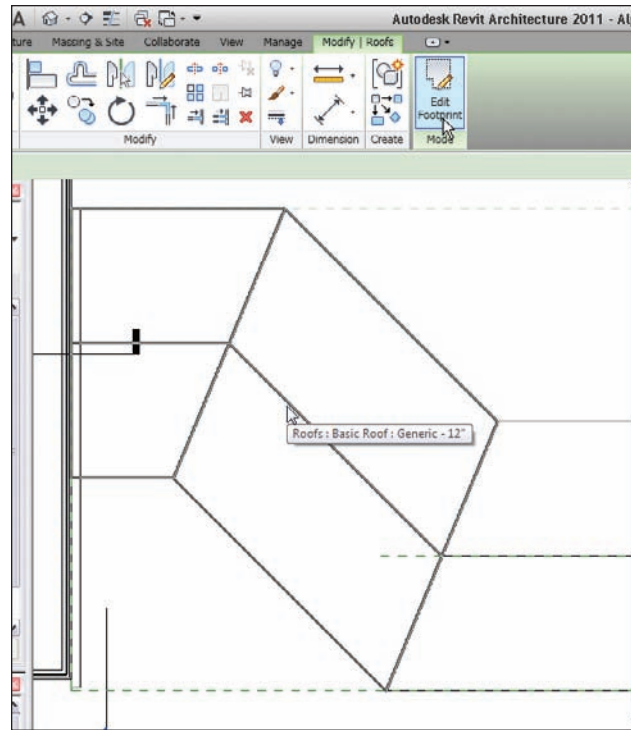

FIGURE 7.59 Selecting the roof to be modified
3. Select the corridor roof, as shown in Figure 7.59.